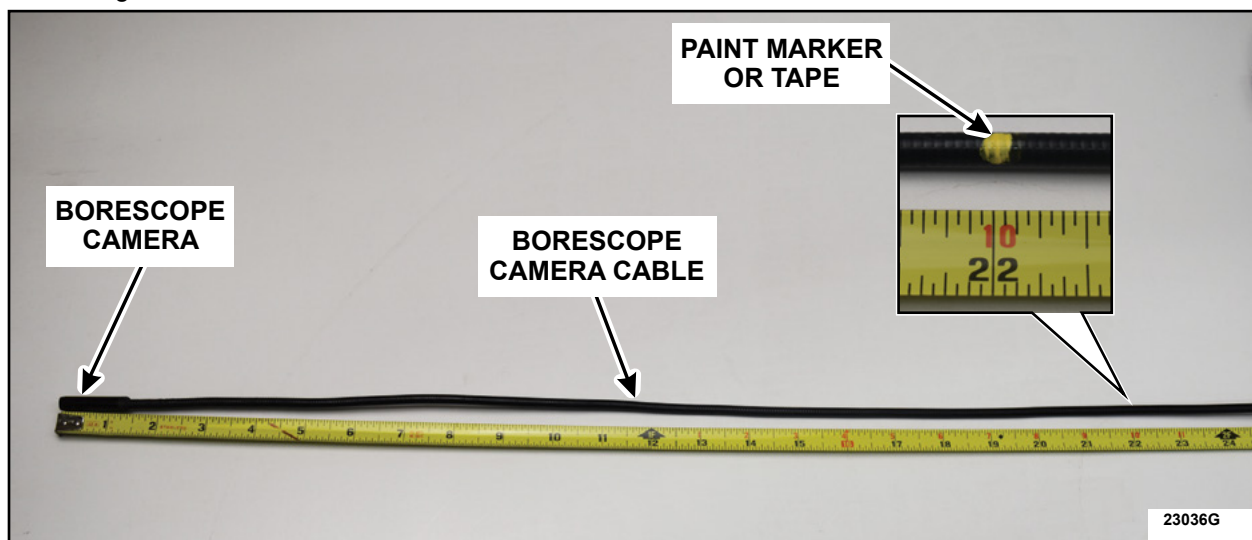

FIGURE 4
6. Measure 22 in (558 mm) from the tip of the camera and place a mark using a paint marker or tape. See Figure 4.